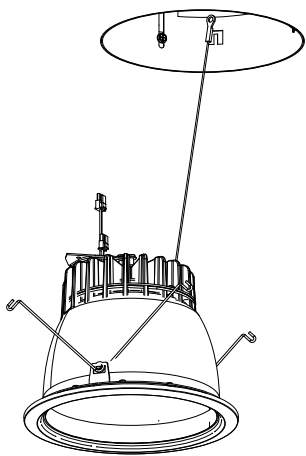

Figure 1
1. Connect cable terminal loop to plaster ring to aide in supporting the trim. See Figure 1.